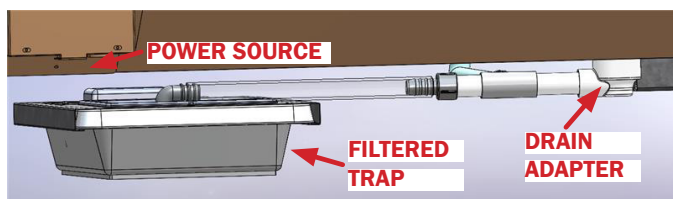

Fig. 34 Optional PVC Drain and Filtered Trap
- **Optional Configuration:** Use filtered trap with integrated condensate pump if required by project specifications. (Fig. 34)